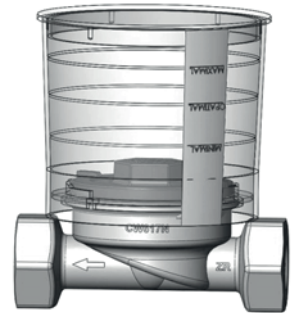

Fig. 1
2. FMHs are delivered with an inserted sealing ring with a tight screwed in cover (see Fig. 1). For FMHs with threaded connection, continue with No. 3. For FMPs with soldered connection: Remove mounting aid, cover and sealing ring. Solder the connections and allow them to cool down. Insert the sealing ring into the FMP below the head thread into the groove, provided and carefully screw the cover tightly and install the mounting aid (see Fig. 2).